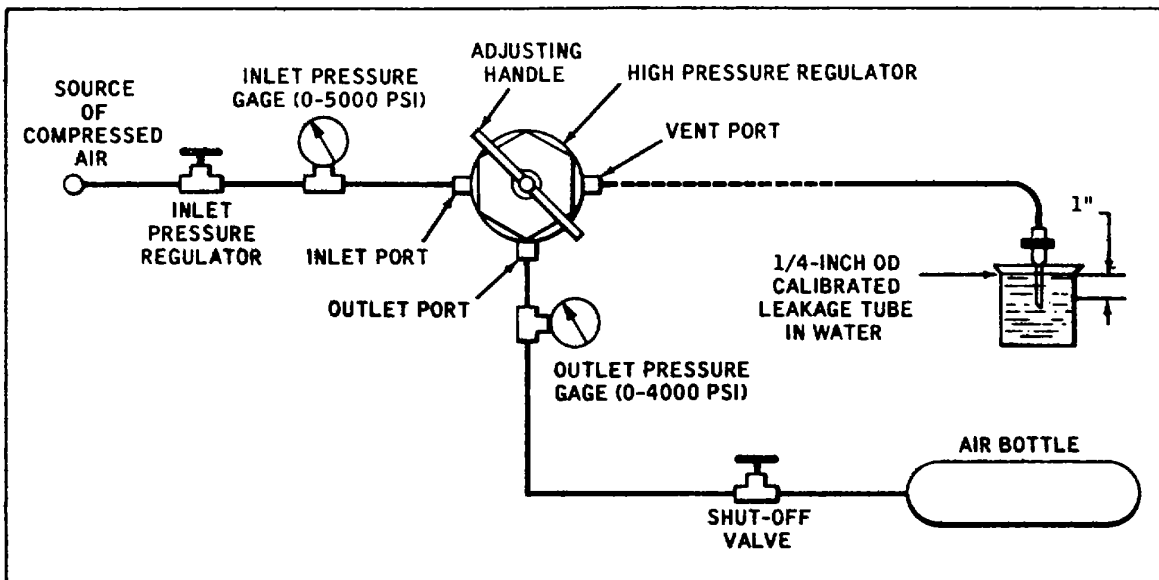

Figure 4-2. Set-up for Testing High Pressure Regulator
a. Connect pressure regulator to test set-up as shown schematically in Figure 4-2.